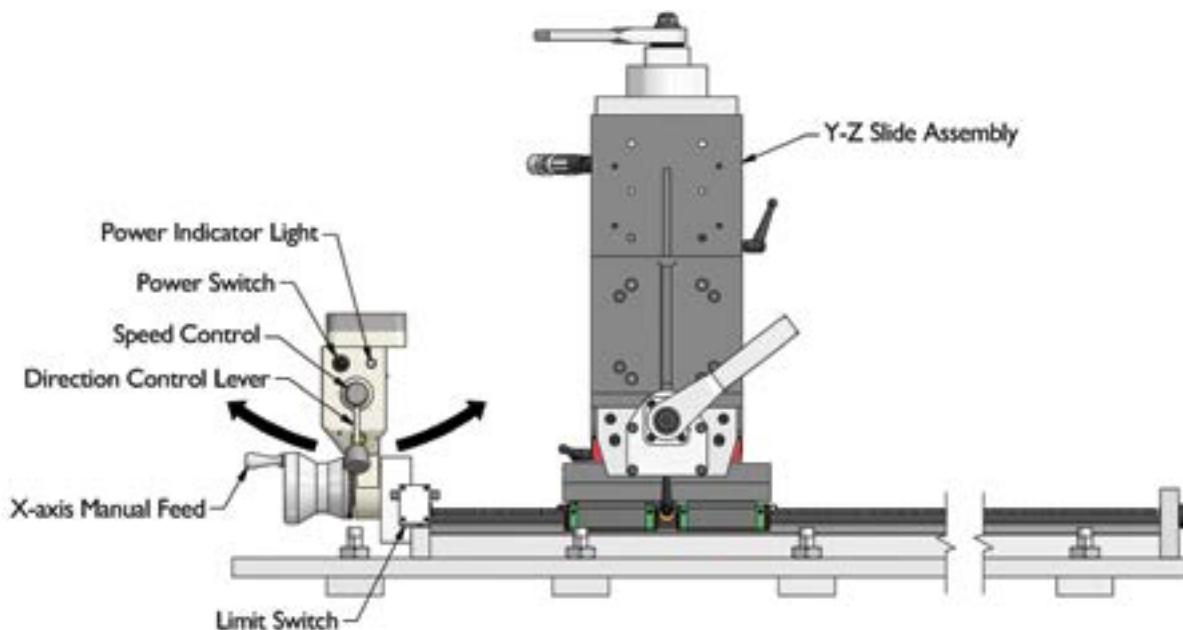

Figure 7 - Servo Controls
3. Connect your spindle motor of choice to its power source. Make sure the servo direction control lever is set to the 'stop' (center) position. Connect the servo motor to a 110V power supply. Start the power supply. Turn on the servo motor power switch. See Figure 7 for servo motor controls.